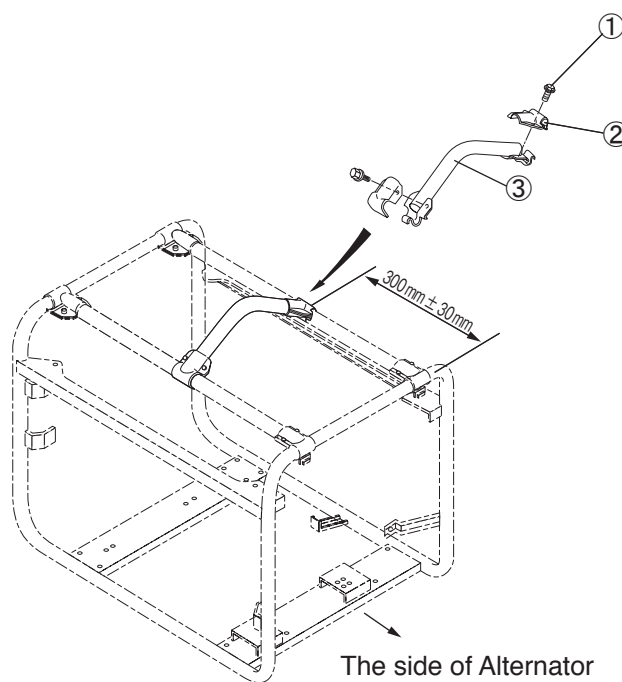

Fig. 14
1. Position the Hanger ③ at the generator's balance point as shown in Fig. 14.
2. Fit the end tabs of the Hanger brackets ② through the Hanger ③ slots, and bolt the Hanger brackets ② to the Hanger ③ using the four M6 x 15 mm Bolts ① and tighten securely.